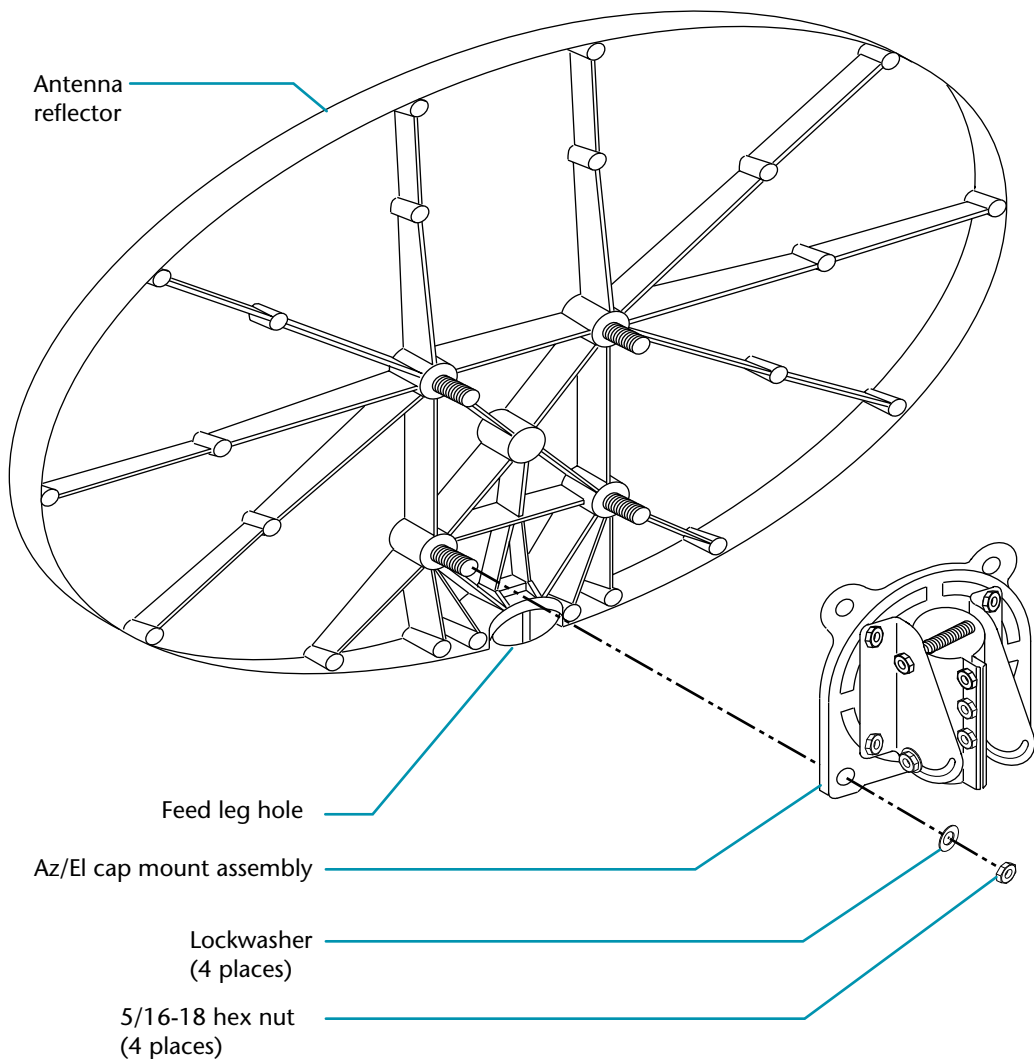

Figure 4-27. Assembling antenna reflector onto AZ/EL cap mount
1. Insert the four threaded studs on back of antenna reflector through corresponding holes on AZ/EL cap mount assembly (see figure 4-27).
Note: Verify that feed leg hole is oriented as shown in figure 4-27.